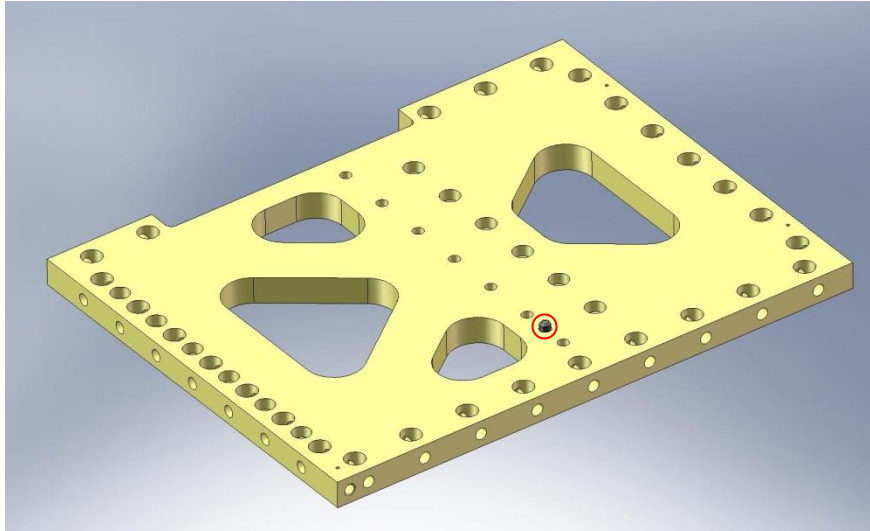

Figure 3.3. Dowel pin pressed into side of Radial Rib (D071068). Pin should sit .25" proud of surface.
- Install Nitronic 60 Heli-Coil threaded inserts in (12) **Outer Wall, Bracket 120** pieces, per machine drawing D071060.
- Install Heli-Coils in (9) **Outer Wall, Bracket 90** pieces (D071061).
- Install Heli-Coils in (6) **Rib Bracket, 60 Deg** pieces (D071073).
- Install Heli-Coils in (3) **Flexure Posts** (D071074).
- Install Heli-Coils in (3) **Spring Hatch, Optics Table** pieces (D071067).
- Press (1) 3/8"x.75" dowel pin into side of each of the (3) **Rib, Rad, Flexure Out 1** plates (D071068) as shown in Figure 3.3. Pin should sit .25" proud of the mating surface. *Do not press pin into bottom of this plate, yet!*